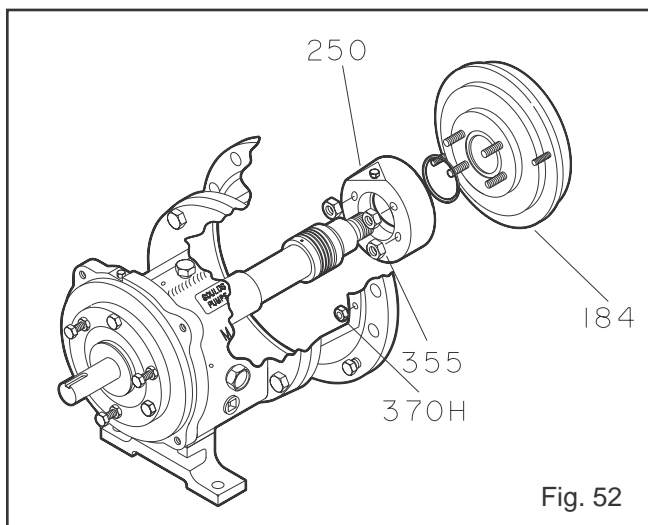

Fig. 52
1. Remove the gland or seal chamber stud nuts (355).
3. Remove the backplate (184) (Fig. 52).